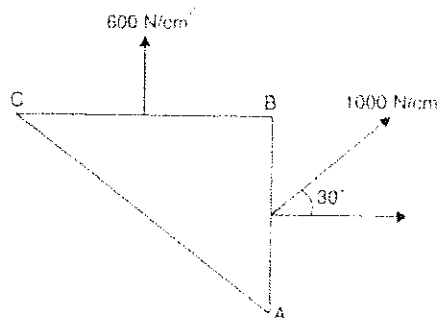

Fig. Q3
- Q3.(a) At a certain point in a material under stress the intensity of the resultant stress on a vertical plane is 1000 N/cm^2 inclined at 30° to the normal to that plane and the stress on a horizontal plane has a normal tensile component of intensity 600 N/cm^2 as shown in Fig. Q3. Find the magnitude and direction of the resultant stress on the horizontal plane and the principal stresses.